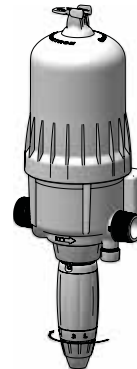

Fig. 15
- Unscrew the dosing locking nut (Fig. 15)